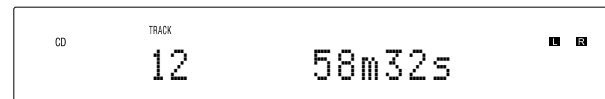

Figure 13
To change the Input Music Source, rotate the Front Panel INPUT Control CLOCKWISE or press the INPUT Push-button on the Remote Control to select the desired Input Music Source. Refer to figures 2 and 10. The Front Panel Information Display will momentarily indicate the selected Input Music Source. Then the display will change to indicate the information that is normally displayed during music playback. First refer to figures 6 thru 9 and then figure 13 for the DISC Playback Display. When a USB Flash Memory Drive is inserted into the Front Panel Connector, the MCD600 Input Selector will automatically switch over from the existing Input Music Source to the USB Music Source Playback.
2. Press the OPEN/CLOSE Push-button and the disc tray will close. Refer to figure 12. Loading of the CD Disc's Table of Contents (number of tracks and total playing time) will be indicated on the Front Panel Display. Refer to figure 13.